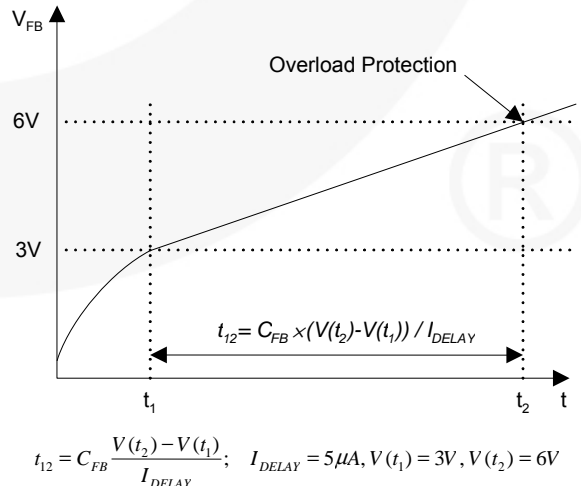

Figure 15. Overload Protection (OLP)
4.1 Overload Protection (OLP): Overload is defined as the load current exceeding a pre-set level due to an unexpected event. In this situation, the protection circuit should be activated to protect the SMPS. However, even when the SMPS is operating normally, the Overload Protection (OLP) circuit can be activated during the load transition. To avoid this undesired operation, the OLP circuit is designed to be activated after a specified time to determine whether it is a transient situation or a true overload situation. In conjunction with the I_{pk} current limit pin (if used), the Current Mode feedback path would limit the current in the SenseFET when the maximum PWM duty cycle is attained. If the output consumes more than this maximum power, the output voltage (V_O) decreases below its nominal voltage. This reduces the current through the optocoupler LED, which also reduces the optocoupler transistor current, thus increasing the feedback voltage (V_{FB}). If V_{FB} exceeds 3V, the feedback input diode is blocked and the 5μA current source (I_{DELAY}) starts to slowly charge C_{fb} up to V_{CC}. In this condition, V_{FB} increases until it reaches 6V, when the switching operation is terminated (as shown in Figure 15). The shutdown delay is the time required to charge C_{fb} from 3V to 6V with 5μA current source.